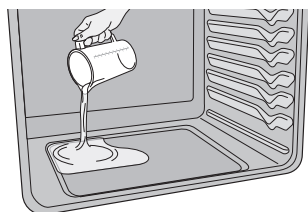

Figure 9: Add 1 cup of tap water
3. Pour 1 cup of tap water onto the oven bottom. (Figure 9) Close oven door.